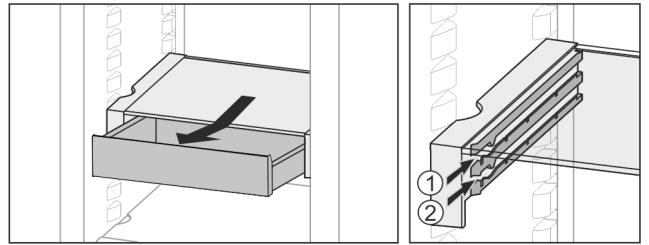

Fig. 22
- ▶ Slide in at height Fig. 22 (1) or Fig. 22 (2).